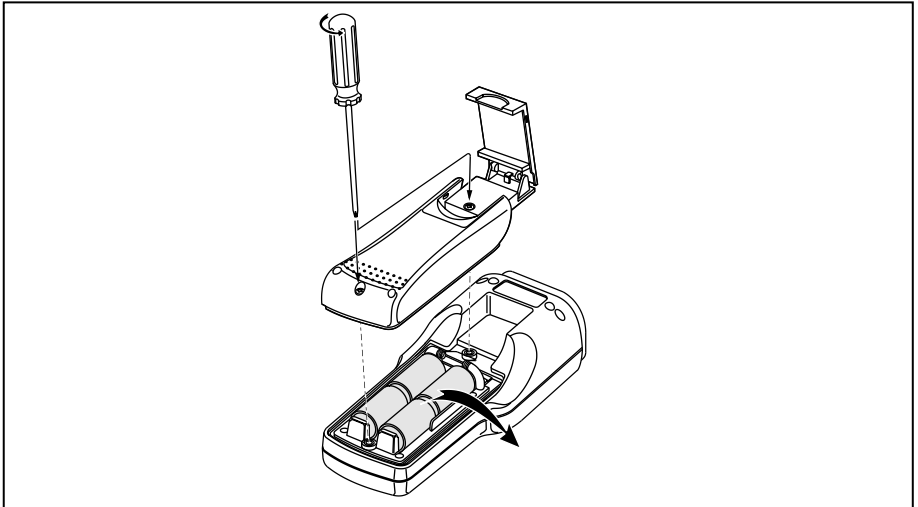

Figure 5. Replacing the Batteries.
The Meter uses four alkaline C cell batteries (supplied). To replace the batteries, do the following (see Figure 5):
6. Replace the C cells as shown in Figure 5. Observe the battery polarity shown in the battery compartment.